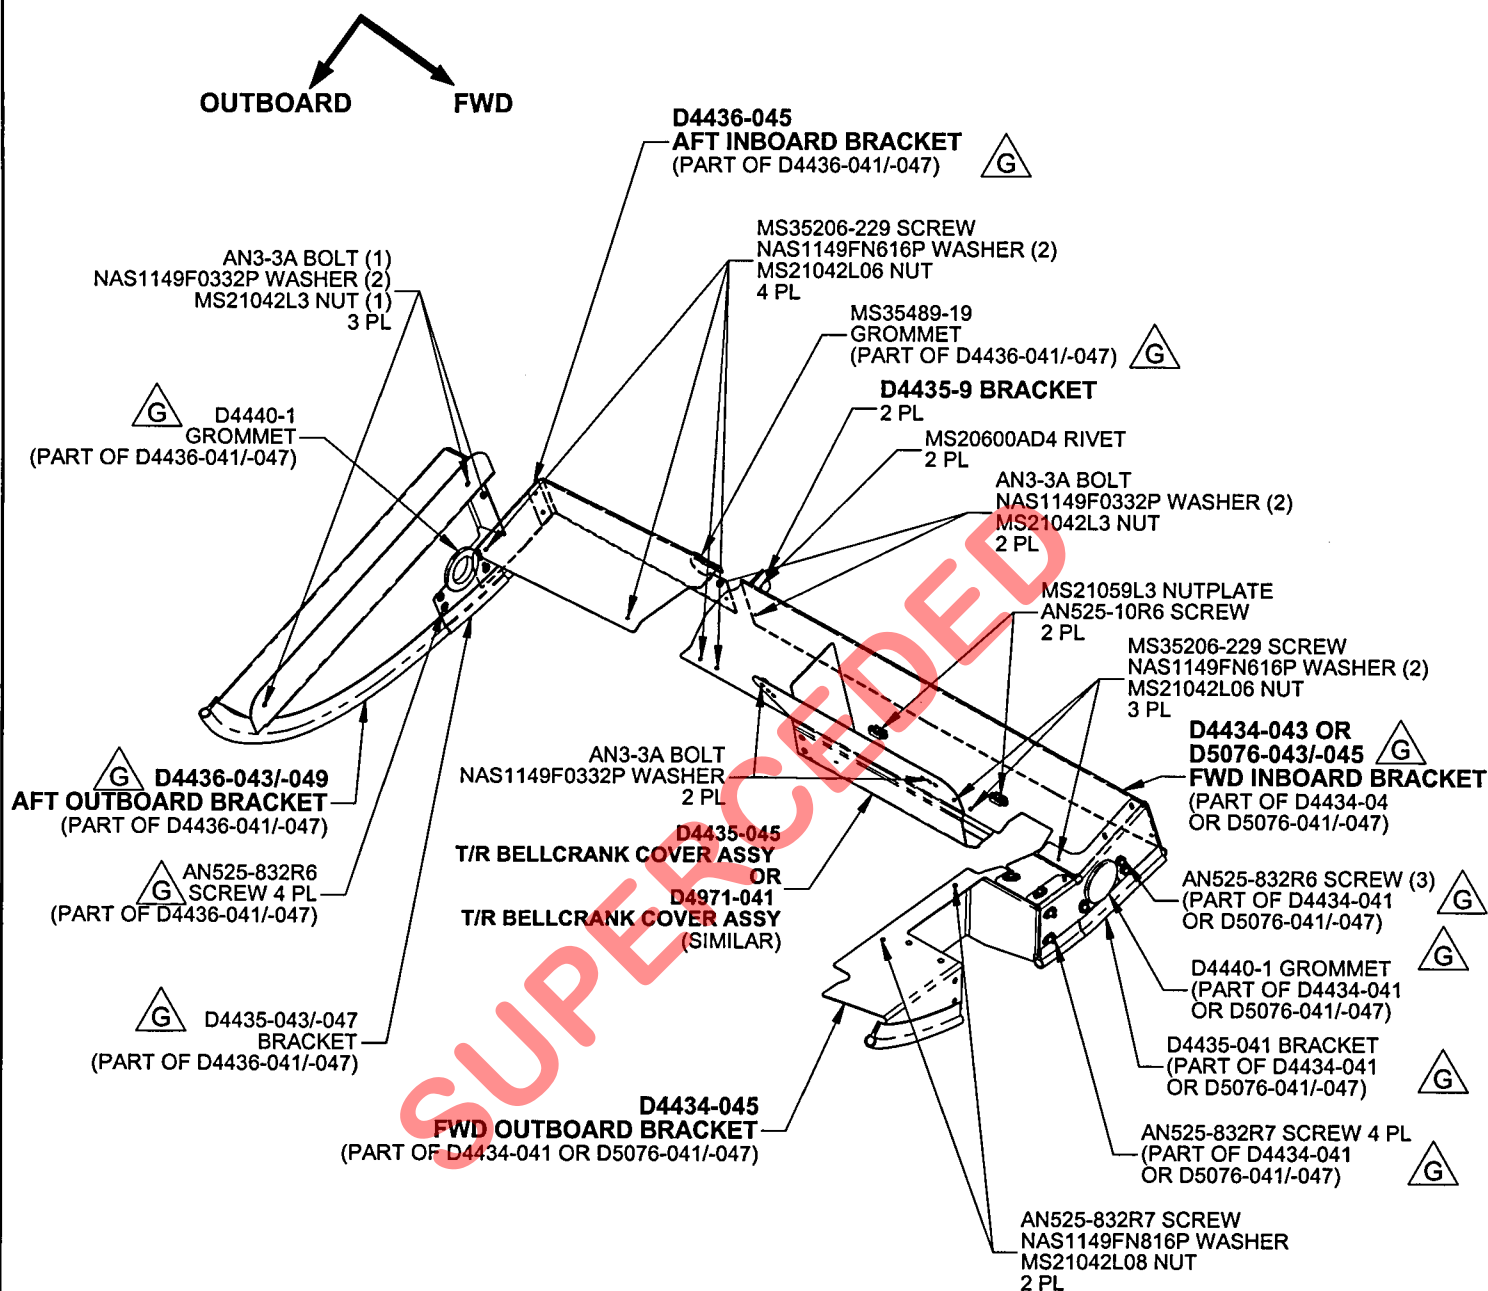

Figure 2. Floor Window Close-out Kit Installation
- 1) Figure 2 shows the general arrangement and installation of the D350-567-141/-143/-145/-147 Close-out Kits. The procedure that follows outlines the step-by-step procedures for installing the kit with reference photos from the initial installation.